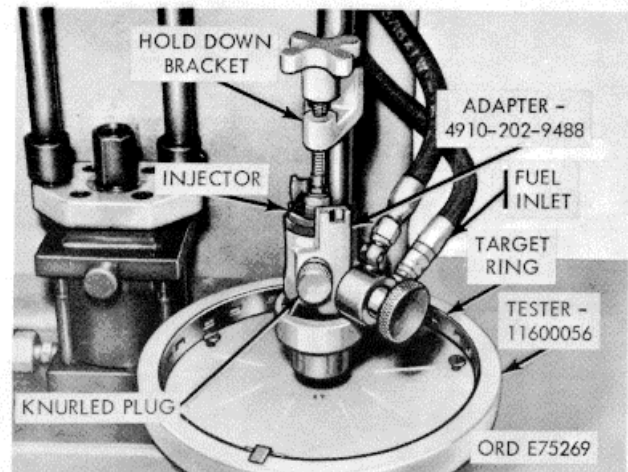

Figure 3-65. Injector mounted in test stand
(5) Insert injector in injector adapter (2' fig. B-28) as shown in (fig. 3-65).
(6) Remove plunger assembly and spring from injector.
(7) Select correct size plunger bore plug and rubber seal and install in injector plunger bore
(9) Place injector in spray angle tester seat (fig. 3-65) and adjust hold-down bracket to position required, then tighten thumb screw.